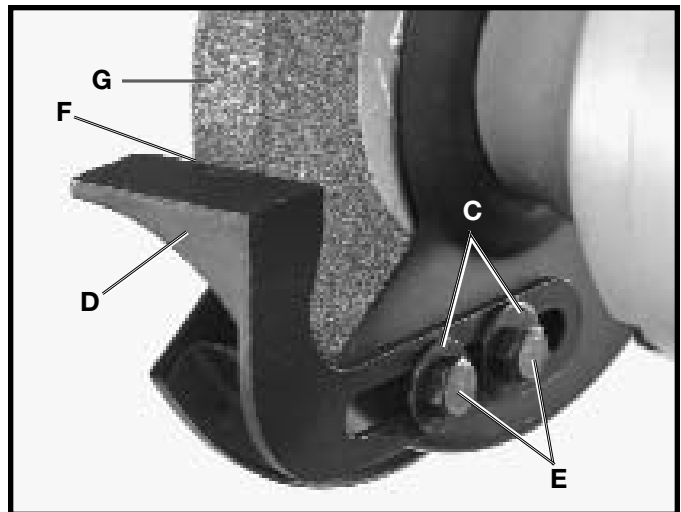

Fig. 4
2. Assemble the remaining flat surfaced tool rest (D) Fig. 4, to the inside of the left wheel guard in the same manner using two 5/16-18x1/2" hex head screws (E), and 3/4" flat washers (C).
3. Each tool rest is adjustable so that the edge (F) Fig. 4, of the tool rest can be positioned as close to the grinding wheel (G) as possible giving maximum support to the piece that is being ground. A distance of 1/8" or less between the grinding wheel (G) and the edge (F) of the tool rest should always be maintained. As the grinding wheel wears down to a smaller diameter, re-adjust the tool rest closer to the wheel. The tool rest should be adjusted so it is set a little below the center of the wheel. This is the most practical and safest position for general work. Free-hand grinding without the use of the tool rest should always be done on the lower quarter of the wheel.